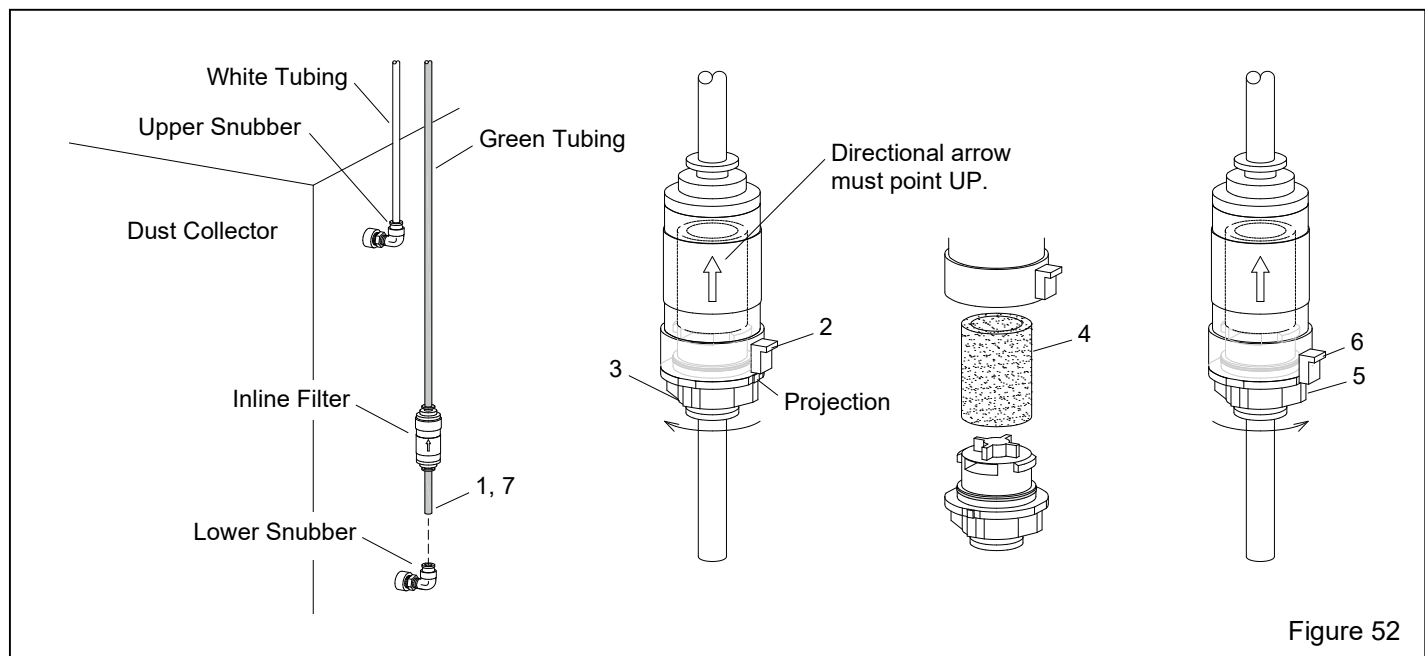

Figure 52
7.16 Clean Dust-Collector's Inline Filter – Figure 52
7.16.1 To avoid cartridge pulsing during cleaning, make sure power is OFF (red pushbutton is pressed). Refer to the matching step numbers in Figure 52 and clean the filter as follows:
7.17 Clean Dust-Collector's Snubber Fittings Figure 52